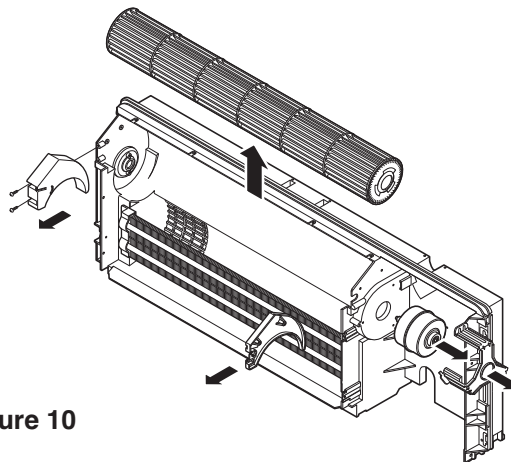

Figure 10
5. Remove the 4 screws which fasten the indoor motor and the earth wire. (See Figure 10)